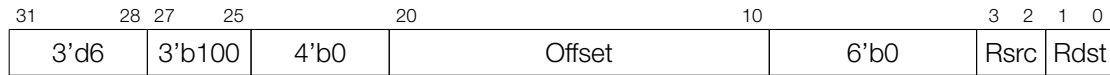

Figure 134: Instruction Type – ST
**Operand**    **Description** - see Figure 134